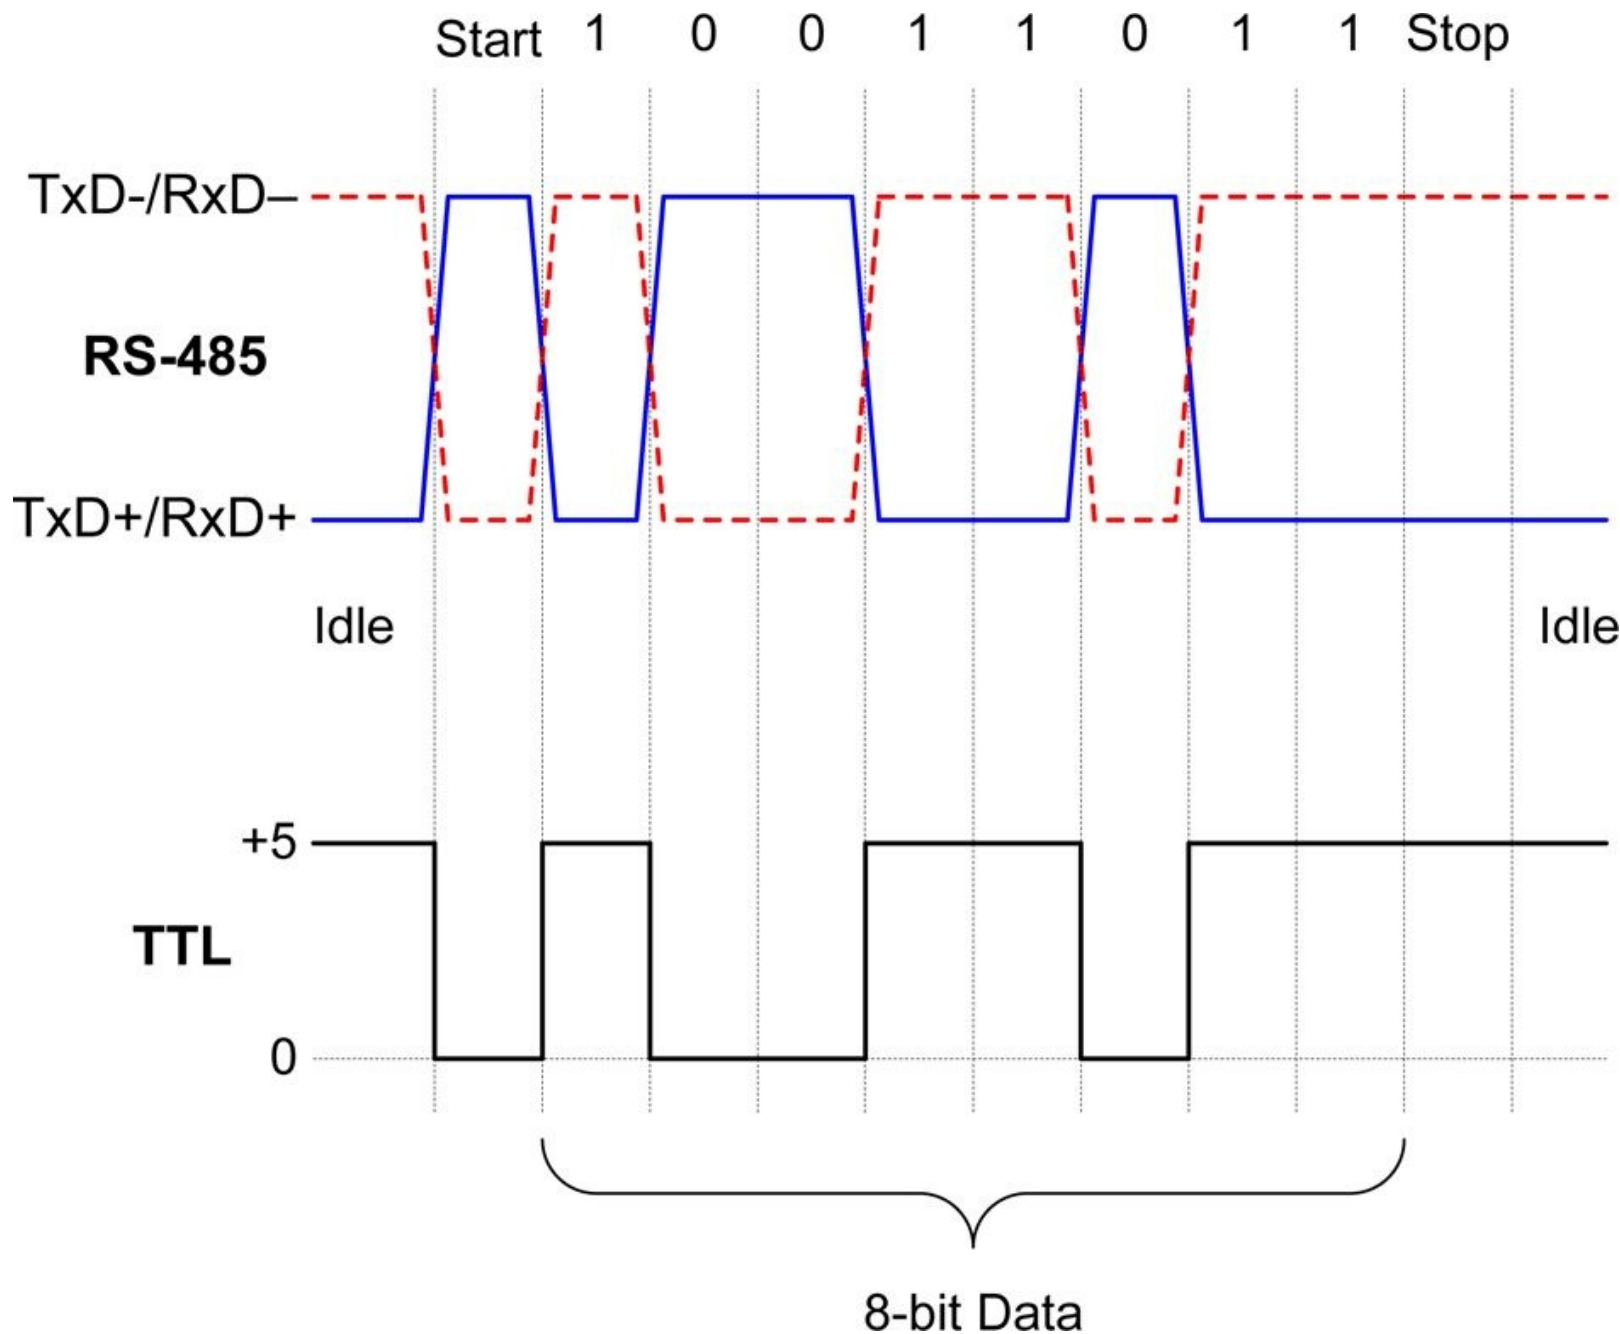

Figure 14-21. RS-485 signals
RS-485 owes its speed and range capabilities to the use of differential signaling. Instead of using a dedicated wire to carry data in a particular direction, two electrically paired wires can transfer data in either direction, but not at the same time. The two wires in a differential interface are always the opposite of each other in polarity. The state of the lines relative to each other indicates a change from a logic value of 1 to a 0, or vice versa. **Figure 14-21** shows a typical situation involving asynchronous serial data that incorporates a start bit and a stop bit. For comparison, it also shows the digital TTL input that corresponds to the RS-485 signals.
The TxD-/RxD- and TxD+/RxD+ designations in **Figure 14-21** indicate that the + and - lines will connect a TxD output to an RxD input. The + and - indicate the logic true polarity of the signal (the - line is true (1) when low, and the + is true (1) when high). In many diagrams of RS-485 circuits, you will often see the lines labeled as just + and -. Note that the + and - signals always return to the initial